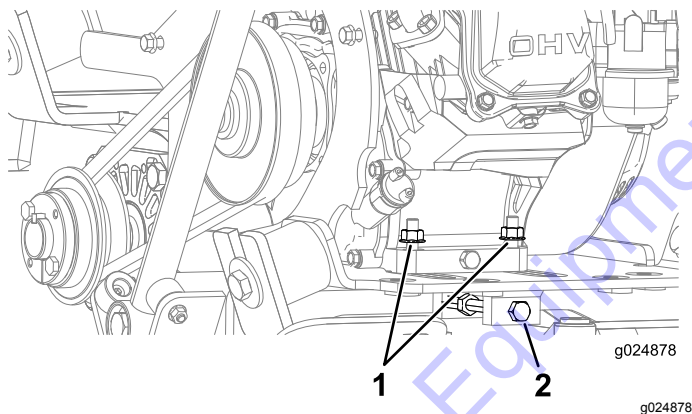

Figure 28
3. Loosen the 2 flange nuts (8 mm) that secure the back of the engine (Figure 28).
4. Loosen the jam nut, and rotate the belt-tensioning bolt clockwise to tension the belt, or rotate the belt-tensioning bolt counterclockwise to loosen the tension on the belt (Figure 28).
8. Tighten the 2 flange nuts (8 mm) that secure the back of the engine to 23 to 29 N·m (17 to 21 ft-lb) as shown in Figure 28.